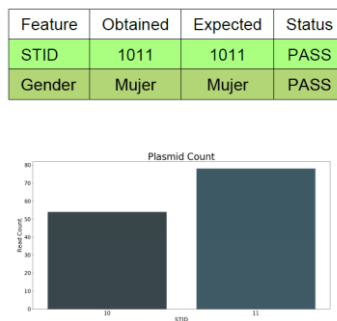

Figure 27. Quality control of the integrated tracking system.
- STIDs: Verification that the tracking reagent obtained matches the expected one (if it has been used), as shown in figure 27.